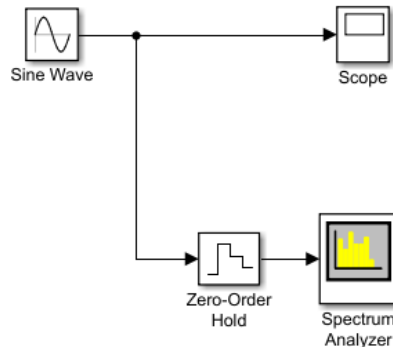

Fig. 2: Simulink model
a) In this section, we will learn the basics of Simulink and build a simple system. Build the system shown in Fig.2. This system consists of a sine wave generator that feeds a scope and a spectrum analyzer.